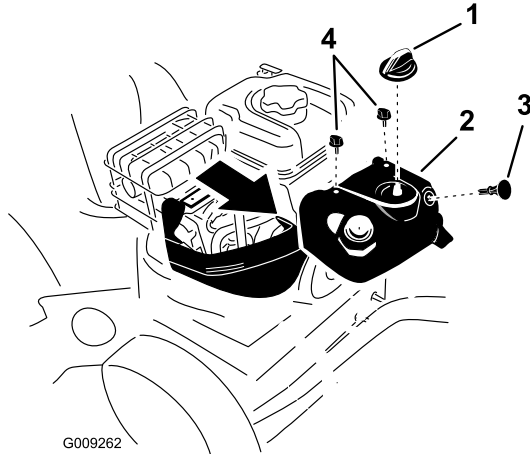

Figure 55
Note: To access the spark plug, you must first remove the upper snow hood (Figure 55).
1. Remove the choke knob and the ignition key (Figure 55).
2. Remove the 2 screws that secure the upper snow hood to the snowthrower (Figure 55).